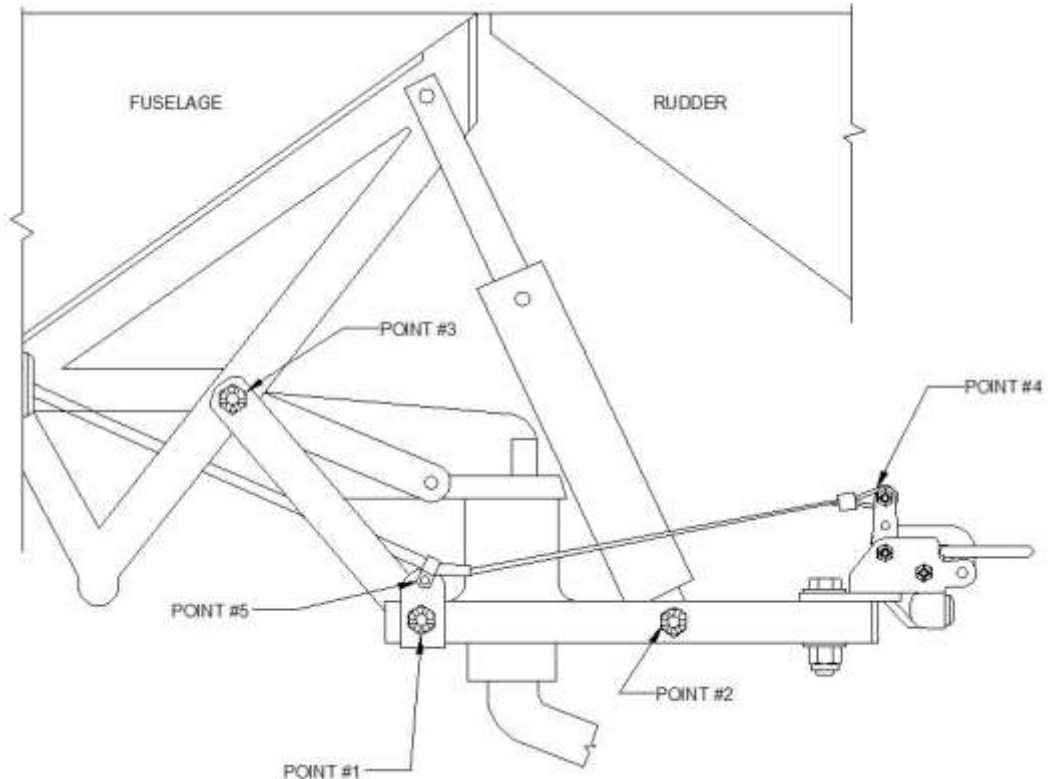

Figure 4.9: Tow Hook Installation on Boeing A75
(5) Boeing A75. Refer to Figure 4.9 for clarification.